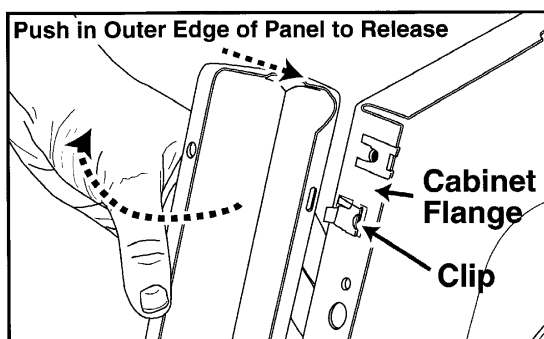

Figure 5-4
4. To remove the front panel, open the door, twist the upper right and left panel extensions inward by pressing in on the outer upper edges of the front panel posts. This will disengage the front panel posts from clips located on the face of the cabinet flange (Figure 5-4).
5. Tilt the top of the front panel away from the washer. Then, remove the front panel (Figure 5-4).